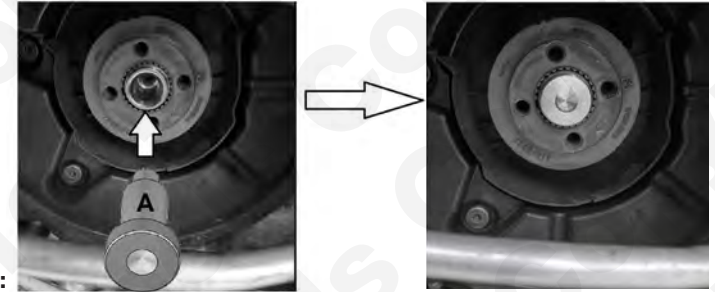

FIG 1:
To protect the crankshaft insert blanking plug (A) into the end of the crankshaft as shown in figure 1.